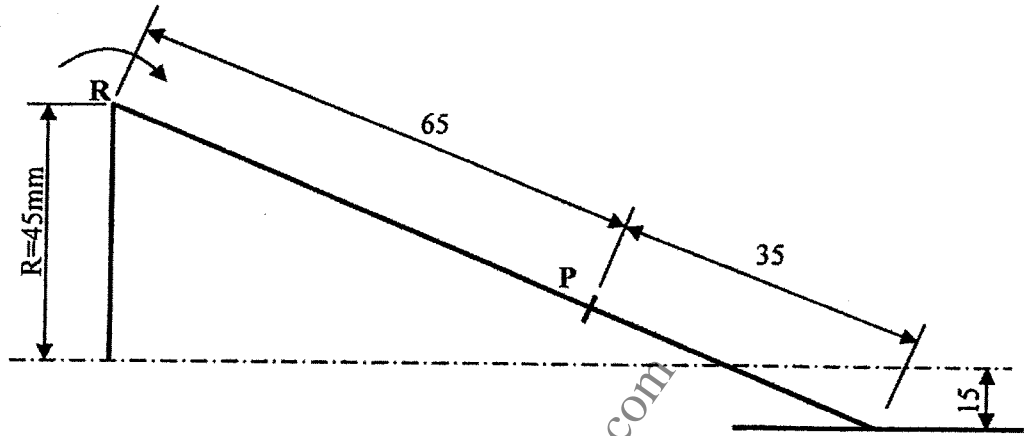

Fig. 4
7. Figure 4 shows the link mechanism of a moving wheel. Plot the locus of point P, 65 mm from R to the sliding surface 15 mm from the centre line of the rotating wheel for one complete revolution of R. (20 marks)